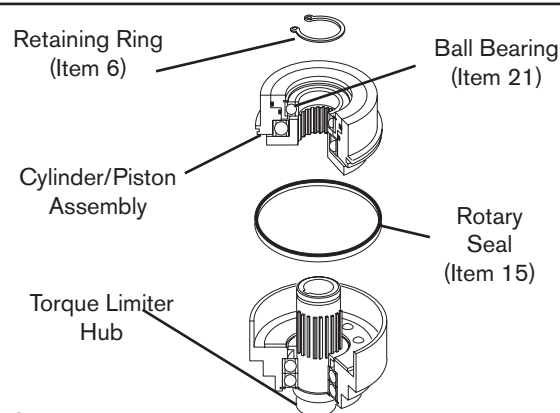

FIGURE 23
7. While fully supporting the inner race of the Ball Bearing (Item 21), press the Cylinder/Piston Assembly onto the Hub and onto the Drive Flange Assembly of the Torque Limiter (See Figure 23).
8. Reinstall Retaining Ring (Item 6) (See Figure 23).